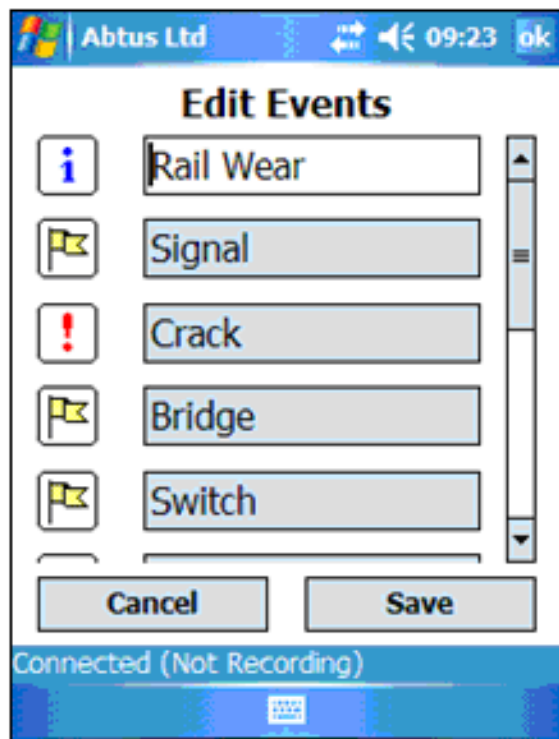

Figure 5
2. Tap on the text of the event you want to edit (Figure 5)